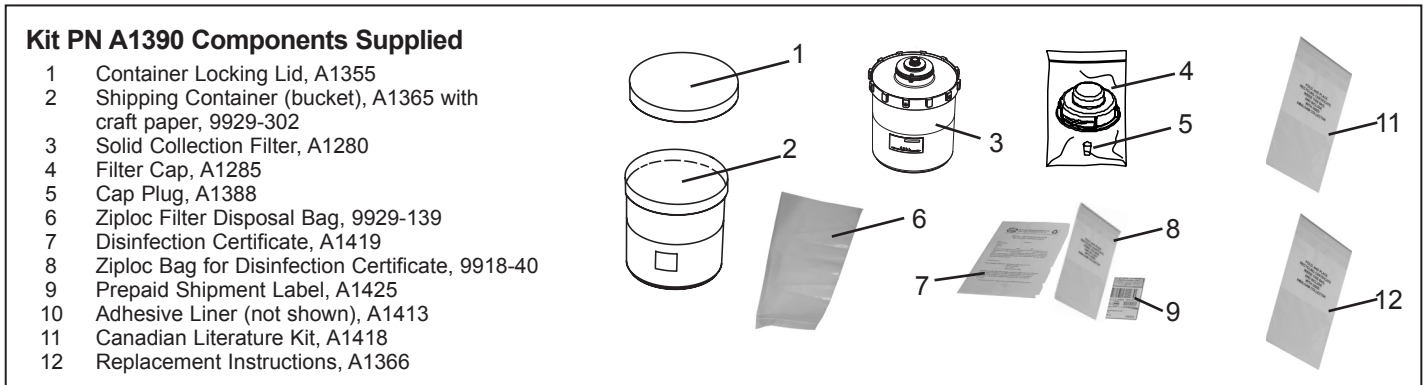

Figure 1. Disposable Solid Collection Filter Kit, Part Number A1390
As shown by Figure 1, each kit contains a Container Locking Lid, A1355; Shipping Container, A1365; Solid Collection Filter, A1280; Filter Cap, A1285 and Cap Plug, A1388. A Prepaid Shipment Label and a Disinfection Certificate with a Ziploc bag used to enclose the Certificate are supplied with the kit. A Canada Literature Kit is also included.
3. Make sure that all components shown by Figure 1 were received.